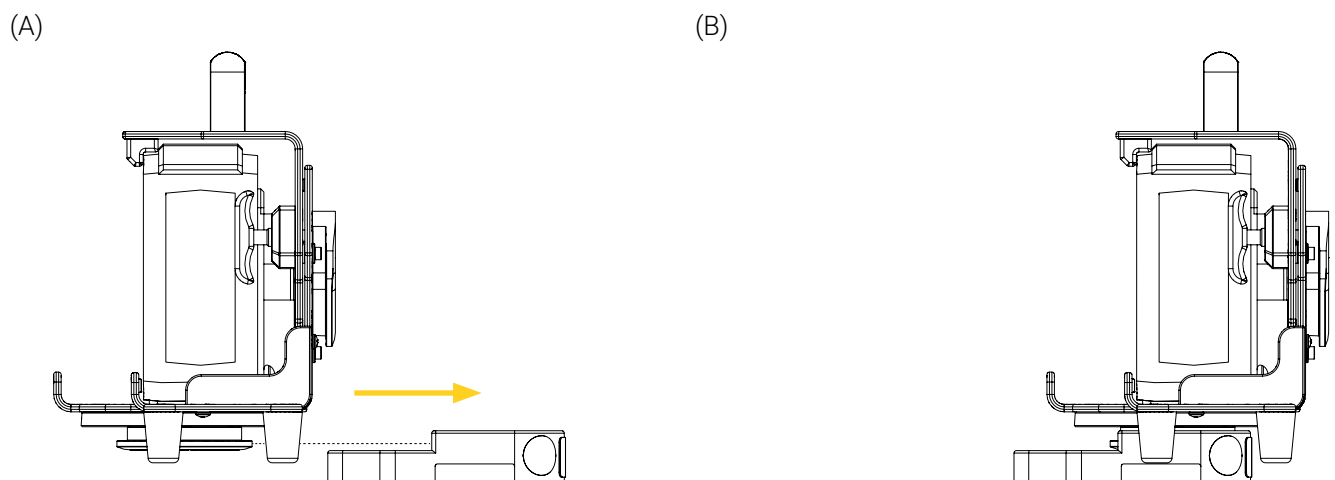
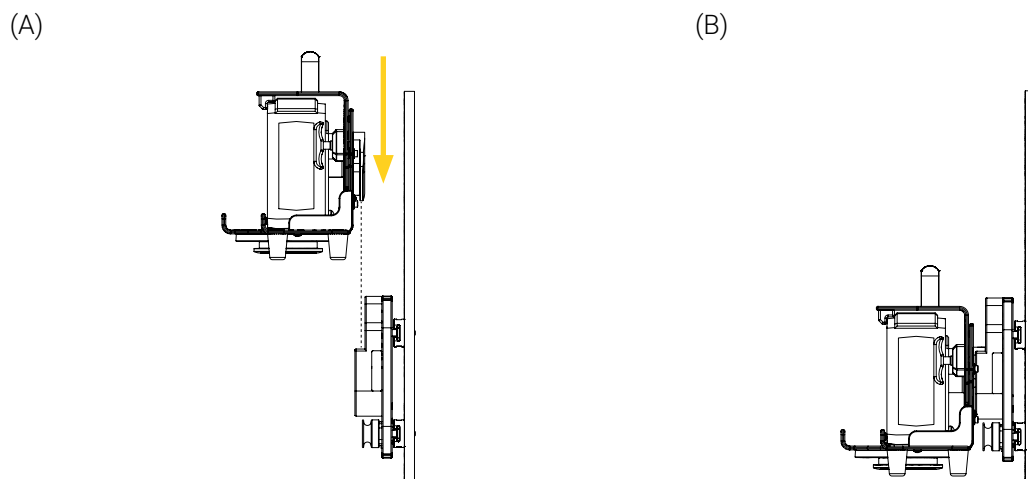

Figure 14: Installing the medical device in the mounting system horizontally
Figure 15: Installing the medical device in the mounting system vertically
1. Align and insert the micro disc located under the mounting bracket of the medical device in the mounting system horizontally (Figure 14) or the anti-rotation micro disc located at the back of the mounting bracket in the mounting system vertically (Figure 15) until it locks.